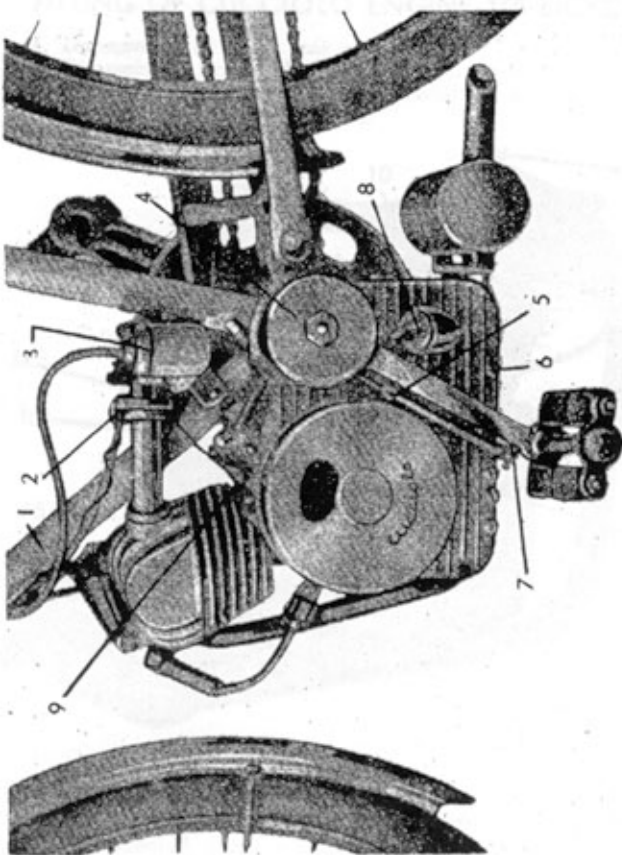

Fig. 1
Place unit in position so that semi-cylindrical grooving (14) encircles lower part of pedal box (4) and cradle (13) may adhere to front lower part of frame's front diagonal tube. Grooved section (14) will be linked to pedal box by inserting the antivibration packing already supplied with it, as well as packing fitted to bracket for cradle (13) by means of the two clamps (16) which will fit around pedal box and are kept in position by the journal fixing unit. Strap (17) will be fixed on top against cradle (13) thus holding firmly Tube 1 (Fig. 1). Care must be taken when tightening clamps (the necessary spanners are supplied with unit) that top fins of cylinder do not touch or come too close to Tube 1 (a clearance of at least 2mm is indispensable). If necessary add some metal packing between cradle (14) and Tube 1. Tighten slightly first both clamps (16), then also slightly, strap (17), after which tighten hard both clamps and strap, driving in right and left nuts. With the tightening of these four stud bolts engine is definitely fitted.
In order to synchronize gear change, loosen entirely clutch regulating screws (Fig. 1). Assemble gear change lever 24 on clutch lever, then fit washer and split pin. Place gear change into neutral position with left pedal down. Slip Bowden wire through special eyelet of clutch lever and pull until both gear change lever thrusts are at an approximate distance of 2mm from preselector cam (25).
The engine is delivered dry; before starting introduce through tap (8) Fig. 1. located on left side of crank case, approx. 400 grs. of thick oil if in summer and semi-dense oil in winter.
Drainage is effected by unscrewing plug 6 (Fig. 1) while engine is still slightly warm.
Gear change operation. The preceding considerations clearly illustrate the automatic operation of gear change; the same clutch lever 7 (fig. 1) and the same movement which disconnects engine from transmission, effects also simultaneously and automatically, gear change without requiring a special control lever.